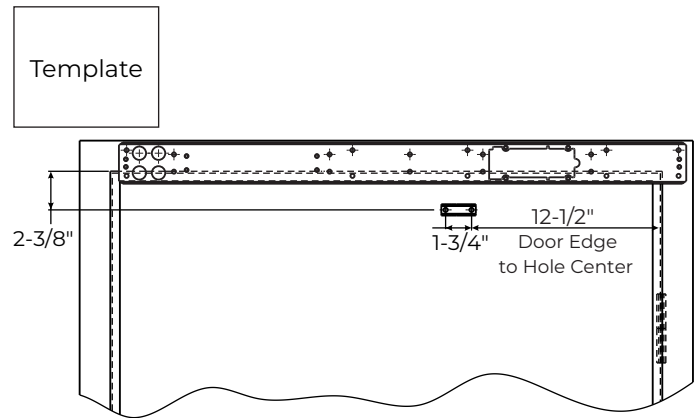

Figure 4
1. Measure and mark door for first forearm shoe mounting hole using template. (Figure 4)